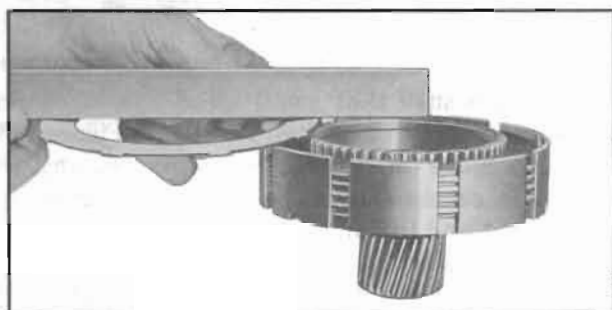

Figure 5-77—Checking "Dished" Side of Externally Splined Clutch Plate
4. Separate the internally splined (faced) clutch plates from the externally splined (plain steel) clutch plates. Internally splined plates are flat and may be installed in either direction. Externally splined plates are "dished" and all these plates must be installed with the "dish" in the same direction; however, the "dish" may be either up or down. Check each plate for "dish" with a straight edge, figure 5-77, and stack plates so that all are "dished" in same direction.